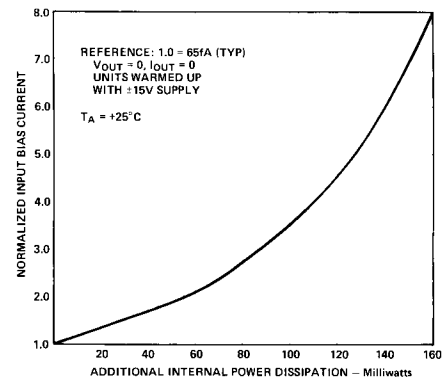

Figure 9. Input Bias Current Versus Additional Power Dissipation
- Output loading effects, which are normally ignored, can cause a significant increase in chip temperature and therefore bias current. For example, a $2k\Omega$ load driven at 10 volts at the output will cause at least an additional 25 milliwatts dissipation in the output stage (and some in other stages) over the typical 24 milliwatts, thereby at least doubling the effects of self-heating. The results of this form of additional power dissipation are demonstrated in Figure 9, which shows normalized input bias current versus additional power dissipated. Therefore, although many dc performance parameters are specified driving a $2k\Omega$ load, to reduce this additional dissipation, we recommend restricting the load impedance to be at least $10k\Omega$.